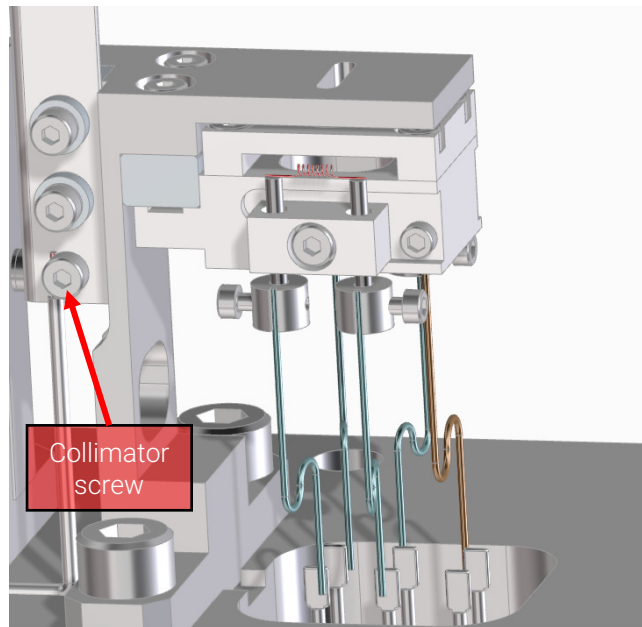

Figure 3-8. Collimator wire connection
19. Connect the collimator wire to the collimator plate using an M 1.5 screw. See Figure 3-8.